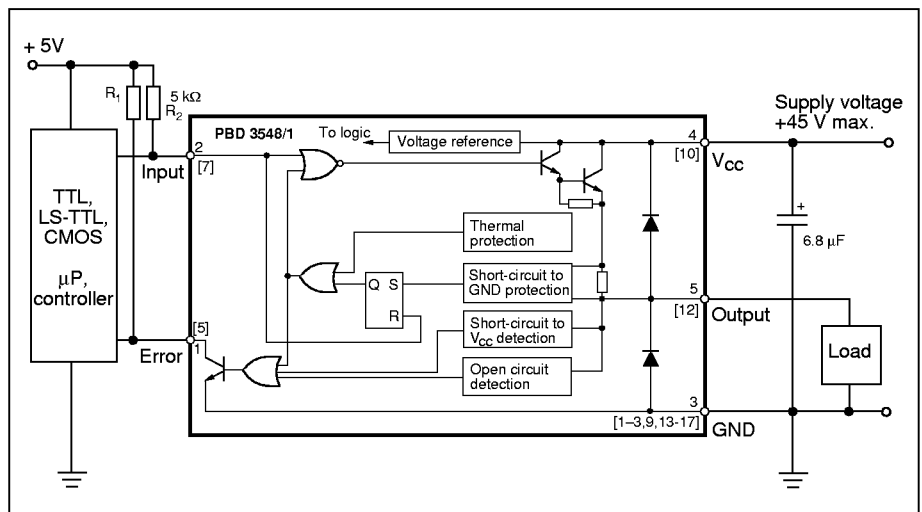

Figure 19. Typical application. Pin numbers refer to TO 220 package.
3. Connect Input and Error via pull-up resistors to the appropriate logic supply level or V_{cc} to obtain highest noise immunity. See figure 19. The resistor R_1 limits the current into the Error indicating pin. This current must not exceed 8 mA. R_2 is a pull-up resistor which improves noise